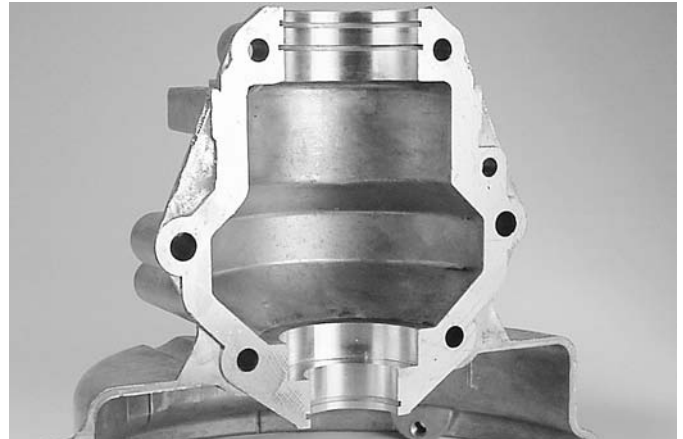

Fig. 31
2. Clean crankcase surfaces with a commercial gasket remover (Figure 31).